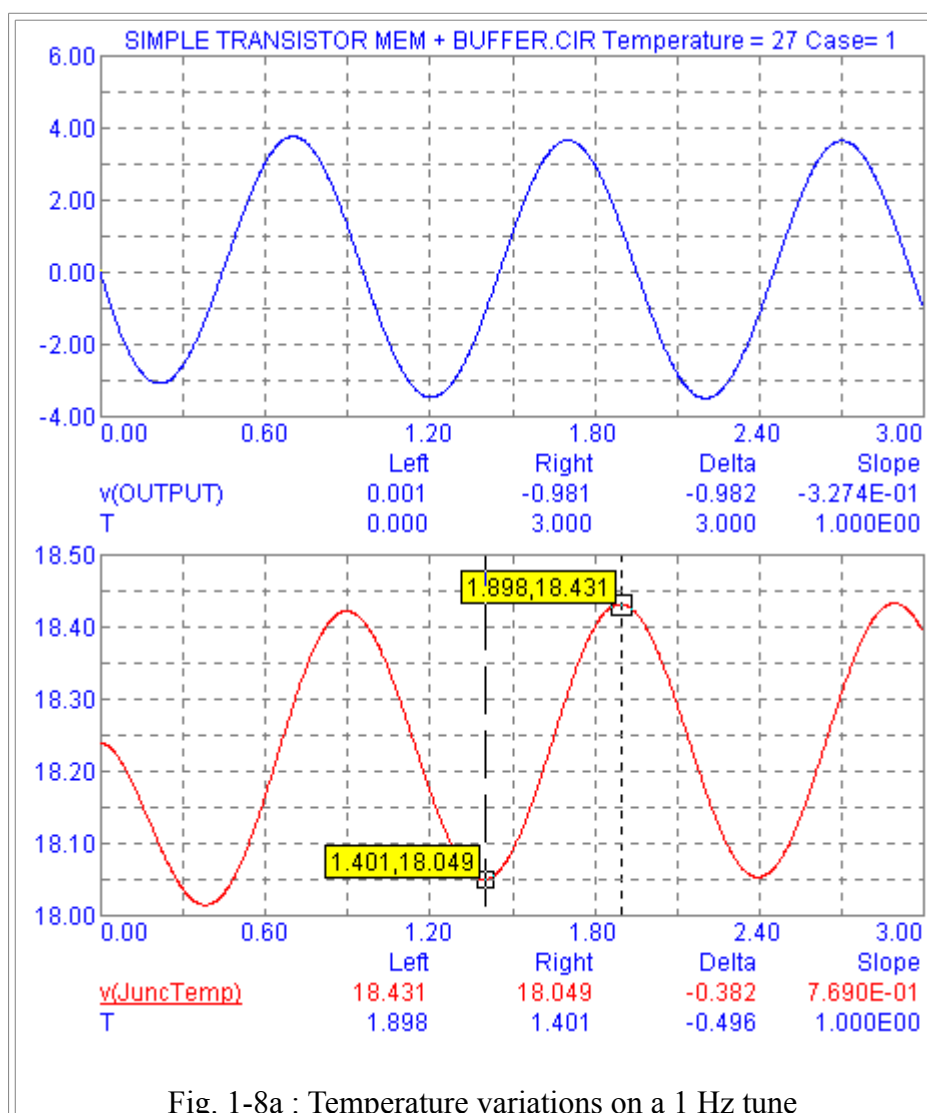

Fig. 1-8a : Temperature variations on a 1 Hz tune
- 1Hz at 2.83VRMS (Fig. 1-8a) not a common frequency per se in music, but on the order of magnitude of the variations of the power envelope of the signal, which influences power dissipation in Q1. On Fig. 1-8a, we see the junction temperature varies of 0.38°C peak-to-peak, which would translate into a 2.42V output drift.